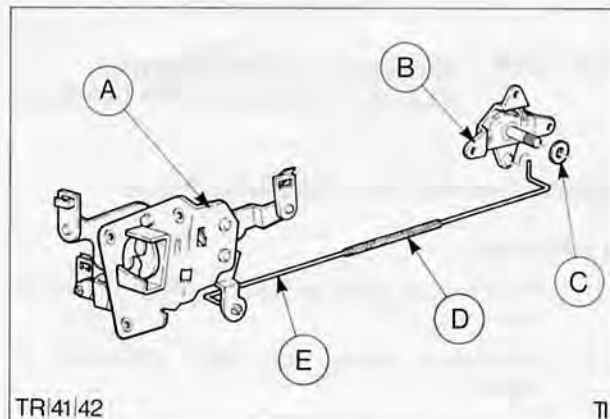

Fig. 22. Remote control and door lock assembly
7. Insert remote control rod Fig. 22, through appropriate lever on door lock.